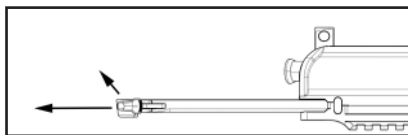

Fig. 37 – Removing the Charging Handle
- a. Pivot the upper receiver from the lower receiver, depress the catch on the charging handle and withdraw the bolt assembly from the rear. Continue to pull the charging handle to the rear until resistance is encountered. Lift up on the charging handle and separate the charging handle from the upper receiver (Fig. 37).